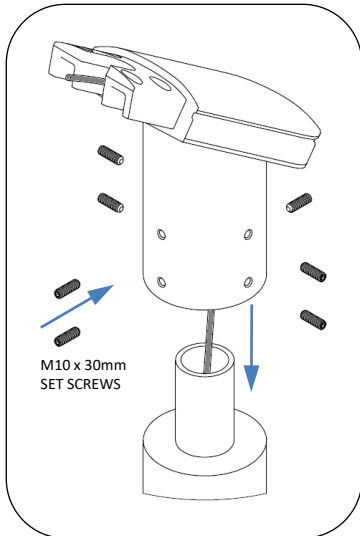

Fig. 5 – Attach luminaire bracket
1. Route the line voltage wires (provided by others) up the pole and through the opening at the top of the pole. See Fig. 5.
2. Route the wires through the luminaire mounting bracket, see Fig. 5.
3. Attach the mounting bracket to the pole using (8) M10 x 30mm set screws. Tighten set screws using a 5mm hex key. See Fig. 5.